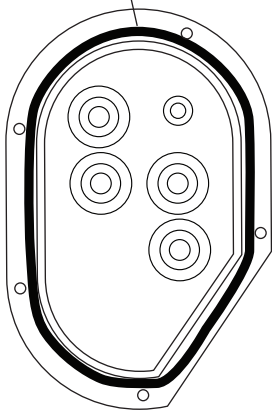

Figure 1
1. Apply a bead of silicone around the mating surface of the kick panel cover (See Figure 1, below).
3. Install the kick panel, routing the hoses and wiring through the opening (See Photo 2, below). For an early-model kickpanel, secure the panel with the trim plate using (3) #8 x 3/4" countersunk washer screws (See Photo 3, below). For a late-model kick panel, do not install the trim plate. Secure the kick panel using (3) #8 x 3/4" countersunk washer screws.
2. Install the straight fitting on the #6 drier/evaporator A/C hose onto the expansion valve on the evaporator unit using a properly lubricated #6 O-ring (See Figure 1, Page 12, and Photo 2, below).
5. Remove the support board (if used), and roll the evaporator into its mounting position. Insert the (2) 1/4-20 x 1 1/2" studs into the upper OEM mounting holes on the firewall (See Photo 5, below).
6. Install the 45° fitting on the #10 compressor/evaporator A/C hose onto the #10 fitting on the evaporator using a properly lubricated #10 O-ring (See Figure 1, Page 12, and Photo 6, below). **NOTE: After installing the #10 compressor/evaporator A/C hose, wrap all exposed metal with the supplied press tape (See Photo 7, below).**